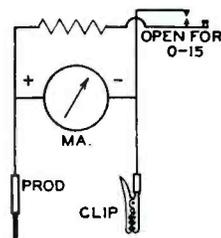

Figure 1.
An 0-15 milliammeter of 295 ohms resistance can be purchased for about 60 cents and one with zero adjustment for about \$1.00. A meter of this type will take care of all current measuring requirements with sufficient accuracy. A shunt equal to one-ninth of the meter resistance will increase the range ten times, measuring current up to 150 mas. Connected as in Figure 1, the meter is always prepared for the highest reading and is a safeguard against burn-out. To read 0-15 ma. press down the key, this will momentarily disconnect the shunt.
Everyone who experiments with radio or electricity is equipped with a voltmeter of some type but many are not fortunate enough to own milliammeters—or at least so they believe. If you are one of this latter class you are due for a surprise because your voltmeter is a milliammeter as well. If you open it up and look inside you will find the meter mechanism and a resistor. Short circuit this resistor and the instrument becomes a straight milliammeter. Its range will be 0 to 1 milliammeter if the voltmeter is one with a 1000 ohms-per-volt rating. If a 100 ohms-per-volt rating the current range will be 0 to 10 ma., etc. Instead of short-circuiting the resistor, you can bring out a lead from between one side of the mechanism and the resistor and mount another binding post on the meter case to which to connect this third lead. Then you can use the instrument either as a current meter or a voltmeter, depending on which of its terminals you employ. All of this is illustrated in Figure 1. (A) and (B) are the original voltmeter terminals while (C) is the added one. Terminals (A) and (B) are used for voltage measurements; terminals (A) and (C) for current. The range of either meter may be increased in the usual manner. Shunting suitable resistors across (A)-(C) will increase the current range. Inserting suitable resistors between (B) and the voltage to be measured will increase the voltage range.